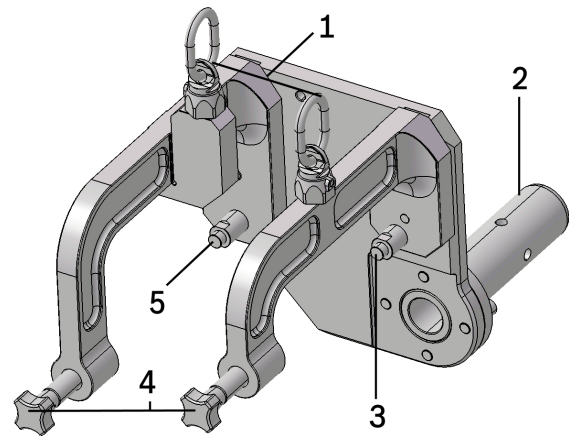

Figure 1: Gearbox support T40344
3. Remove the bolt (3) from the gearbox support and store it in a safe place (see Figure 1).